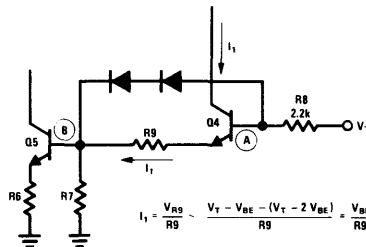

FIGURE 7.34.
Capacitor C_2 discharges through the load. Q_7 shares the total supply voltage with Q_2 , thus limiting power dissipation of Q_2 . Another power dissipation problem may occur when the design is done for $V_T = 2.0V$ for example, and V_T is increased above the preset threshold value. I_1 is increased and Q_4 has to dissipate $(V_{IN} - 3V_{BE} - V_T) I_1$ (W). The simplest solution is to increase R_8 . If this is insufficient, a set of diodes may be added between nodes A and B to clamp I_1 to a reasonable value. This is illustrated in Figure 7.34.
Figure 7.34 the diode D1 in Figure 7.33 may be omitted. The shutdown characteristics of Figure 7.33 are shown in Figure 7.34.